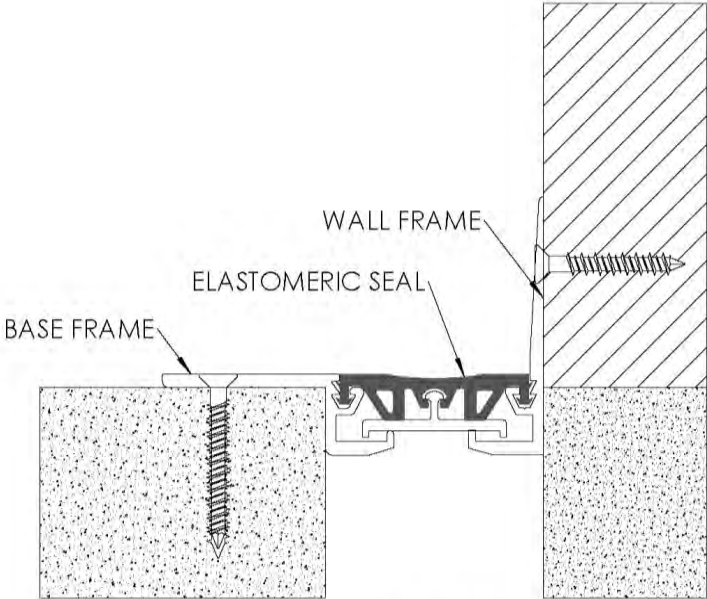

FIGURE 4
- 4. Position the elastomeric seal into position and push the seal bulbs into the base frame and wall frame top channels as shown. Make sure the bulbs are seated all the way into the channel. Also, make sure the bottom center channel in the seal is pushed over the protrusion on the slide plate (not required on 1” joint sizes). **See Figure 4**